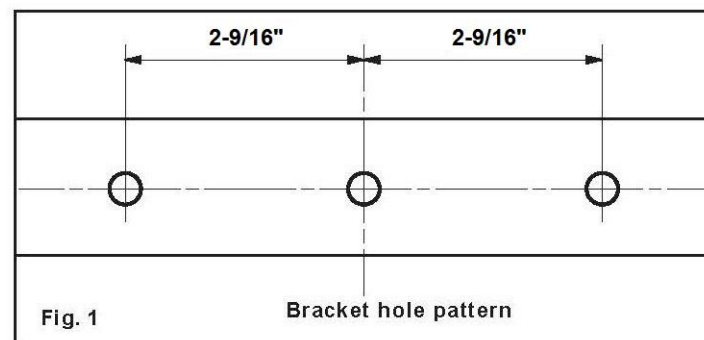

Fig. 1 Bracket hole pattern
- Using the bracket as a template, mark the (3) screw locations with pencil. (Fig.1)
- Install the bracket with the (3) provided head wood screws with washers using a 1/2" wrench or socket. Tighten all three until snug.